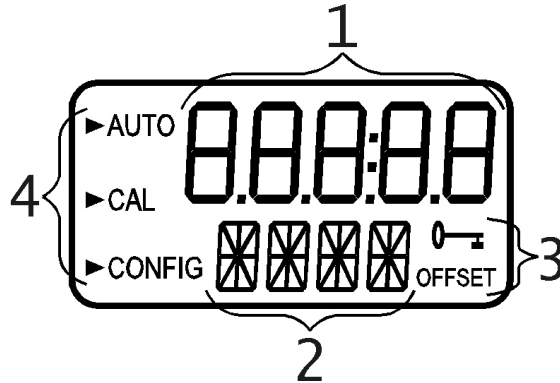

Figure 1 – Display used in the instrument.
Figure 1 illustrates all the items that can appear on the display. The upper row of the display (1) is used for reporting the % T levels and to provide user guidance in the customer setting routine. The lower row of the display (2) is used to communicate error messages and provide user guidance. All error messages will be added to a queue along with the units (%T). The display has two icons (3) that are used to indicate the use of access code and offset mode. In addition, mode arrows (4) are used to indicate the current instrument operating mode; AUTO (normal operation), CAL (calibration) and CONFIG (configuration).